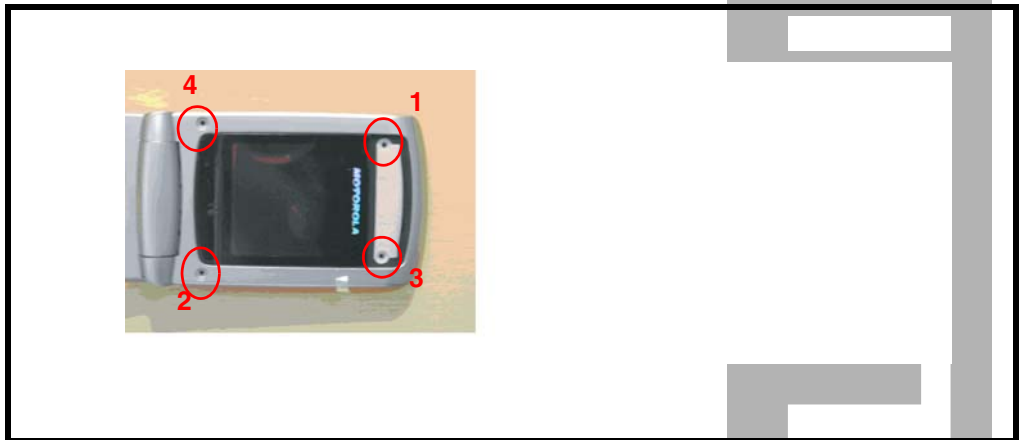

Figure 27. Removing screws
4. Sequentially remove 1-2-3-4 screws with T5 screwdriver as shown in Figure 27.
6. To replace, put screw cover into the Housing B with a tweezer as shown in Figure 27.